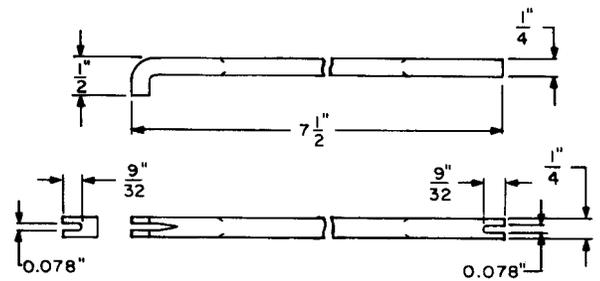

Fig. 20—326B Adjuster Tool
2.20 **326B:** The 326B tool (Fig. 20) is used on clutches, 50A drives, panel elevator apparatus, and L-, N-, and S-type relays. The 326B tool replaces the 326 tool.